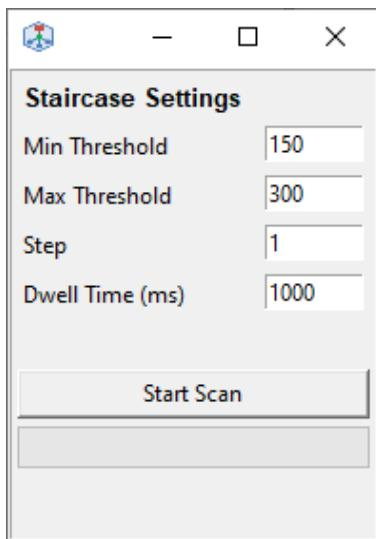

Fig. 10.41: "Staircase Settings" window.
3. Press the "Staircase" button in the Icon bar of the Janus window  A window similar to that in Fig. 10.41 will be opened. The values of the following parameters should be set by the user:
- "Dwell Time (ms)": Set the value of the time interval during which the TD self-triggers have to be counted. An example of the settings for a SiPM staircase acquisition are shown in Fig. 10.41.